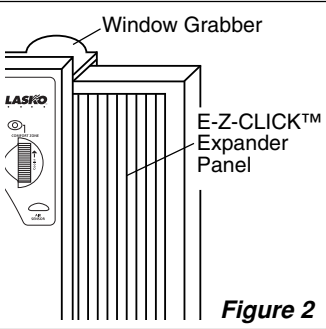

Figure 2
- 3. Holding the Fan in place from the front, lower the window sash slowly until it fits between the Window Grabbers on the top of the Fan. (Figure 2)
- 4. Once the Fan is secure, pull out both E-Z-CLICK™ Expander Panels until the open space on the sides are fully blocked. These E-Z-CLICK™ Expander Panels will automatically hold at the desired length. (Figure 2)